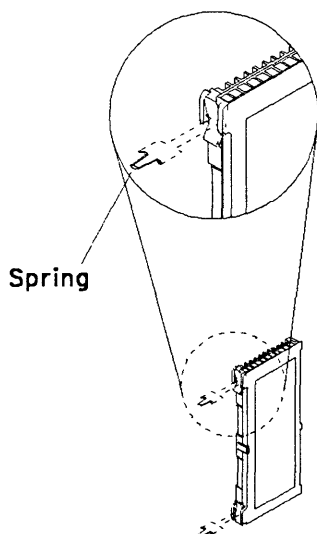

Figure 5-57. Shipping Springs
8. If present, remove the 'shipping springs' that secure the extractor levers by squeezing them together. Refer to Figure 5-57.
- a. Press the 'Function' key on the control panel until the 'MOSS IML' function (1) is displayed.
- a. If present, remove the 'shipping springs' that secure the extractor levers by squeezing them together. Refer to Figure 5-57 on page 5-61.
squeezing them together. Refer to Figure 5-57 on page 5-61.